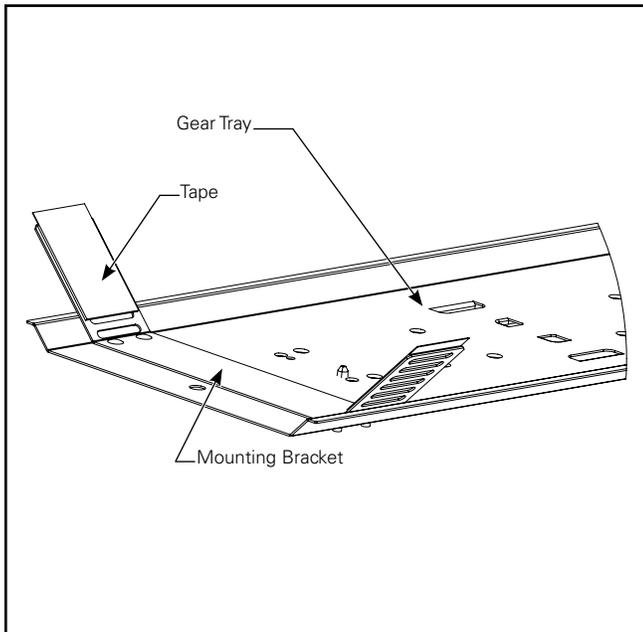

Figure 4.
4. The mounting brackets have tape on each end to help assist with installation. Before installation, clean the sides of the existing fixture to remove any oil, dirt or grease. Then remove the protective cover over the tape by pulling on the tab. The tape will **ONLY TEMPORALLY** hold the gear tray in place and is **NOT** designed to hold the gear tray in place permanently. (Figure 4.)